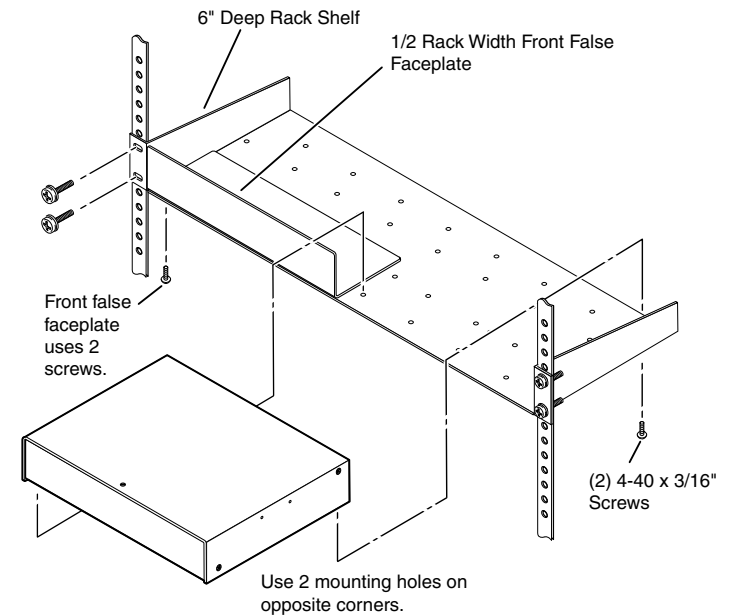

Figure 2-1 — Mounting the switcher unit on a 6" rack shelf
2. Mount the switcher on the rack shelf, using two 4-40 x 3/16" screws in opposite (diagonal) corners to secure it to the shelf (figure 2-1).